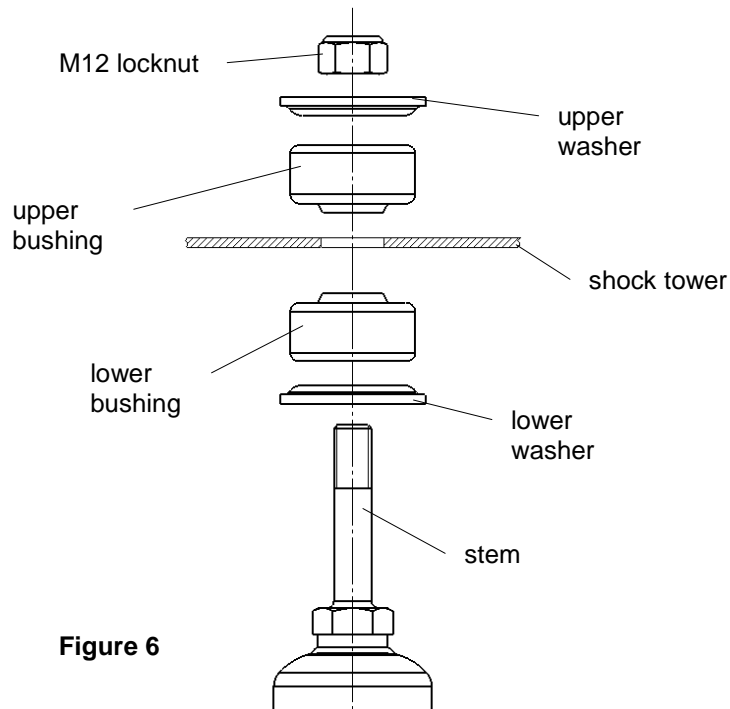

Figure 6
- P. Using the supplied stem mounting hardware kit, install the upper mount. Refer to Figure 6 for the proper order of installation of the stem hardware. If a chassis hoist has been used, be sure to lower the vehicle such that its full weight is on the suspension prior to fully tightening the fasteners.